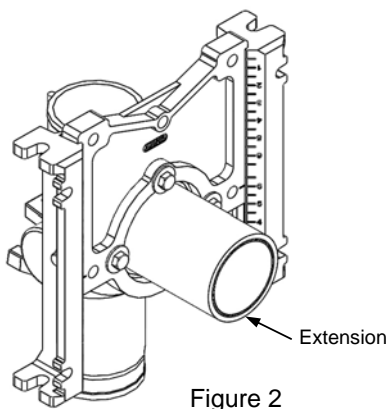

Figure 2
2. Screw extension into fitting and tighten. After testing system, mark extension, remove and cut square to proper length (depth of closet horn minus 3/8" beyond finished wall line). Replace cut extension and tighten. See Figure 2.